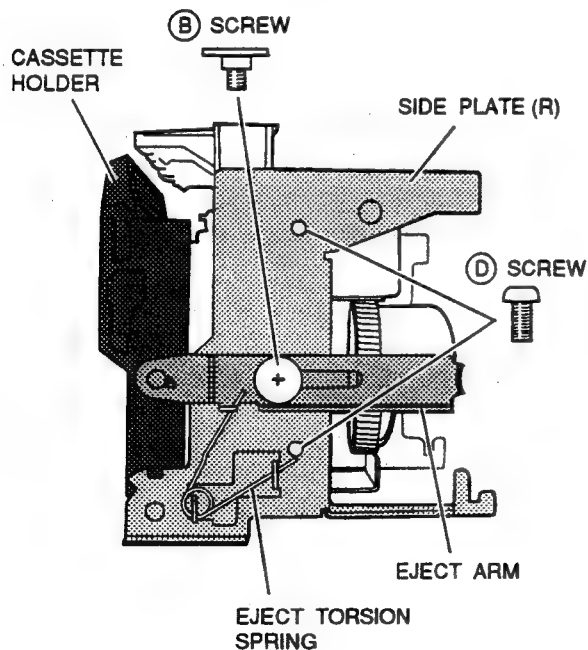

Fig. 3-2
- 1) Remove the (B) graduated screw and remove the EJECT ARM and the EJECT TORSION SPRING (refer to Fig. 3-2).